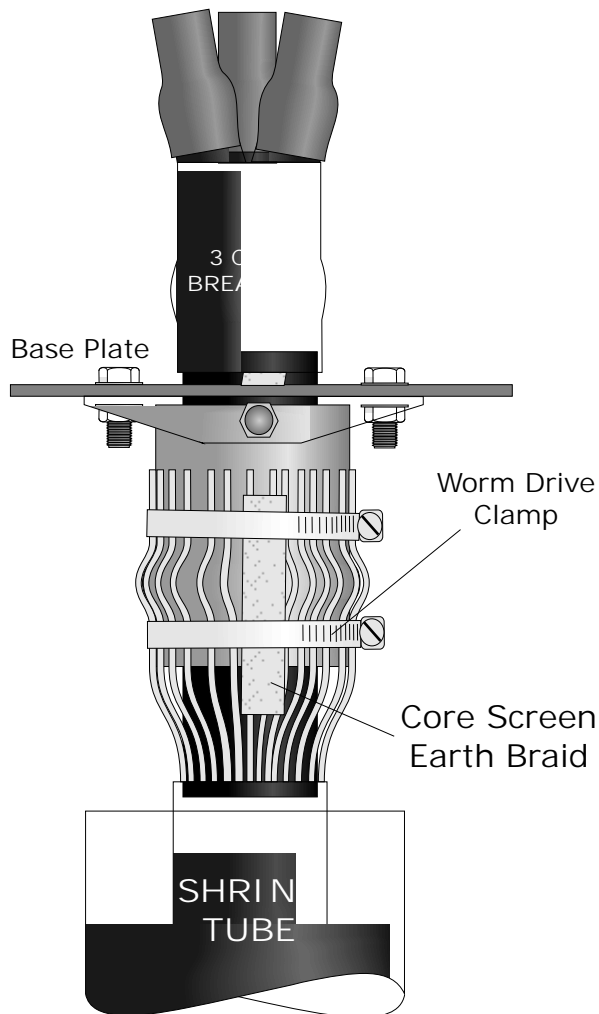

Fig 3
6. Using the worm drive clamps connect the armours and screen earth braids to the gland body as shown in Fig 3. Ensure the clamps are tight.